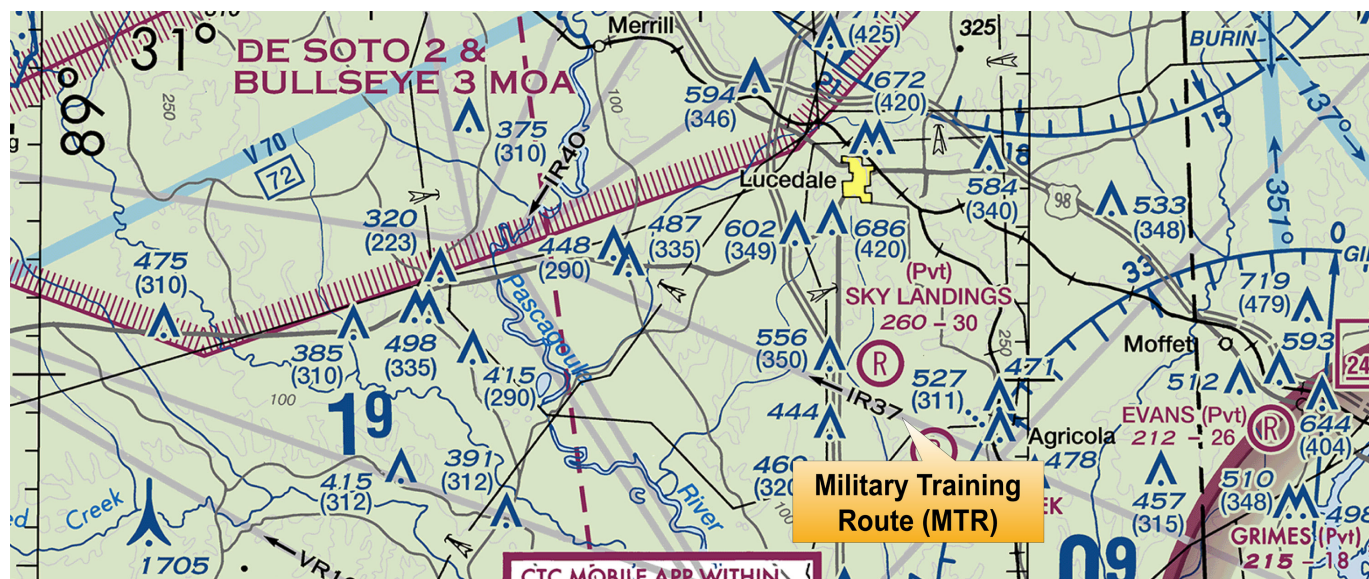

Figure 3–37: Military training route (MTR) chart symbols.
MTRs are routes used by military aircraft to maintain proficiency in tactical flying. These routes are usually established below 10,000 feet MSL for operations at speeds in excess of 250 knots. Some route segments may be defined at higher altitudes for purposes of route continuity. Routes are identified as IFR (IR) and VFR (VR), followed by a number. [Figure 3–37] MTRs with no segment above 1,500 feet AGL are identified by four number characters (e.g., IR1206, VR1207). MTRs that include one or more segments above 1,500 feet AGL are identified by three number characters (e.g., IR206, VR207). IFR low altitude en route charts depict all IR routes and all VR routes that accommodate operations above 1,500 feet AGL. IR routes are conducted in accordance with IFR regardless of weather conditions. VFR sectional charts depict military training activities, such as IR, VR, MOA, restricted area, warning area, and alert area information.